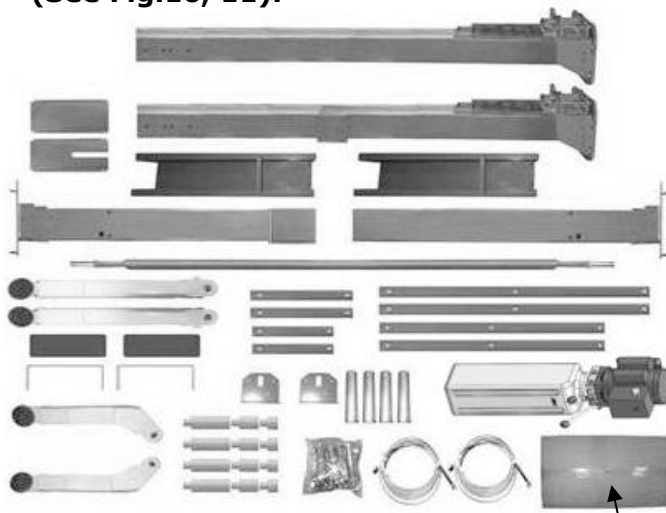

Fig. 10
4. Move aside the parts and check the parts according to the shipment parts list (See Fig.10, 11).